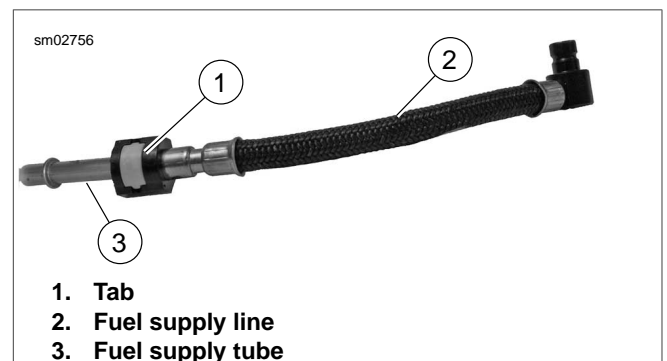

Figure 4-20. Fuel Supply Line
10. See Figure 4-20. If fuel supply line (2) is being replaced, squeeze ends of tab (1) and pull tab away from fuel supply line to release from fuel supply tube (3).
3. See Figure 4-20. Slide fuel supply line (2) onto fuel supply tube (3). Push in on tab until it locks the fuel supply line (2) on fuel supply tube (3). Tug on fuel supply line (2) to verify it is locked into place.